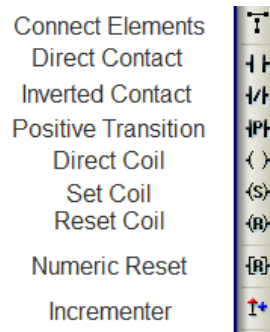

Figure 2- Ladder Tool Bar
Step 4: Using the Ladder Tool Bar (figure 2) build the following Ladder Logic.
Step 5: Click on **Direct contact** icon (figure2). Drop the direct contact on the left rail. Once dropped, the familiar *Select operand and Address* window appears.
Step 6: Click the **Direct Coil** icon (figure 2). Place the direct coil to the right of the Direct contact. The *Select operand and Address* window appears. In the drop down menu, select **T** to replace MB. Type **0** to the right. The definition 10s timer should appear. This is the definition given to TD0 earlier. Click **OK**.
Step 7: Select a **Direct Contact** icon (figure 2). Drop the contact on the left rail. The *Select Operand and Address* window appears. Here, select **T** in the drop down menu to replace MB. Type **0** to the right. The definition 10s timer should appear. This is the definition given to TD0 earlier. Click **OK**.
Step 8: Click the **Reset Coil** icon (figure 2). Drop the coil to the right on the Direct Contact. The *Select Operand and Address* window appears. Here, type **0**. The definition “Lamp” should appear. This is the definition given to MBO earlier. Click okay.
Step 5: Select **Connect Elements** in the Ladder Tool Bar (figure 2). Draw a line connecting the 2 Contacts.
Step 11: Select **Connect Elements** icon in the Ladder Tool Bar (figure 2). Draw a line connecting the 2 Contacts.
Step 12: Select the **incrementer** icon from the Ladder tool bar (figure 2). Place the incrementer to the right of the pos and neg transition contacts. A value for increment window will appear, shown below. Enter **MI, 21**. The description *DT row pointer* will appear. Click **OK**.
Step 14: Select a **Numeric reset** icon from the Ladder tool bar (figure 2). Place the numeric reset to the right of the *greater than* function block. When placed, a *Select operand and address* window appears. Enter **MI, 21**. Click **OK**.
Step 2: From the Ladder Logic toolbar (figure 2), select the **inverted contact** icon. Place the inverted contact on the rail as shown above in rung 5. Once placed, define a new timer (shown below). From the drop down menu, select **T**, type **1**, **10ms pulse generator**. Enter the value **00:00:00.01** shown in red below. Select **OK**.
Step 3: From the Ladder logic toolbar (figure 2), select the **direct coil** icon. Place the direct coil to the right of the inverted contact as shown above in rung 5. Once placed, the *Select operand and address* window will appear. From the dropdown menu, select **T** and type **1** to the right. The definition will appear as 10 ms pulse generator. Select **OK**.